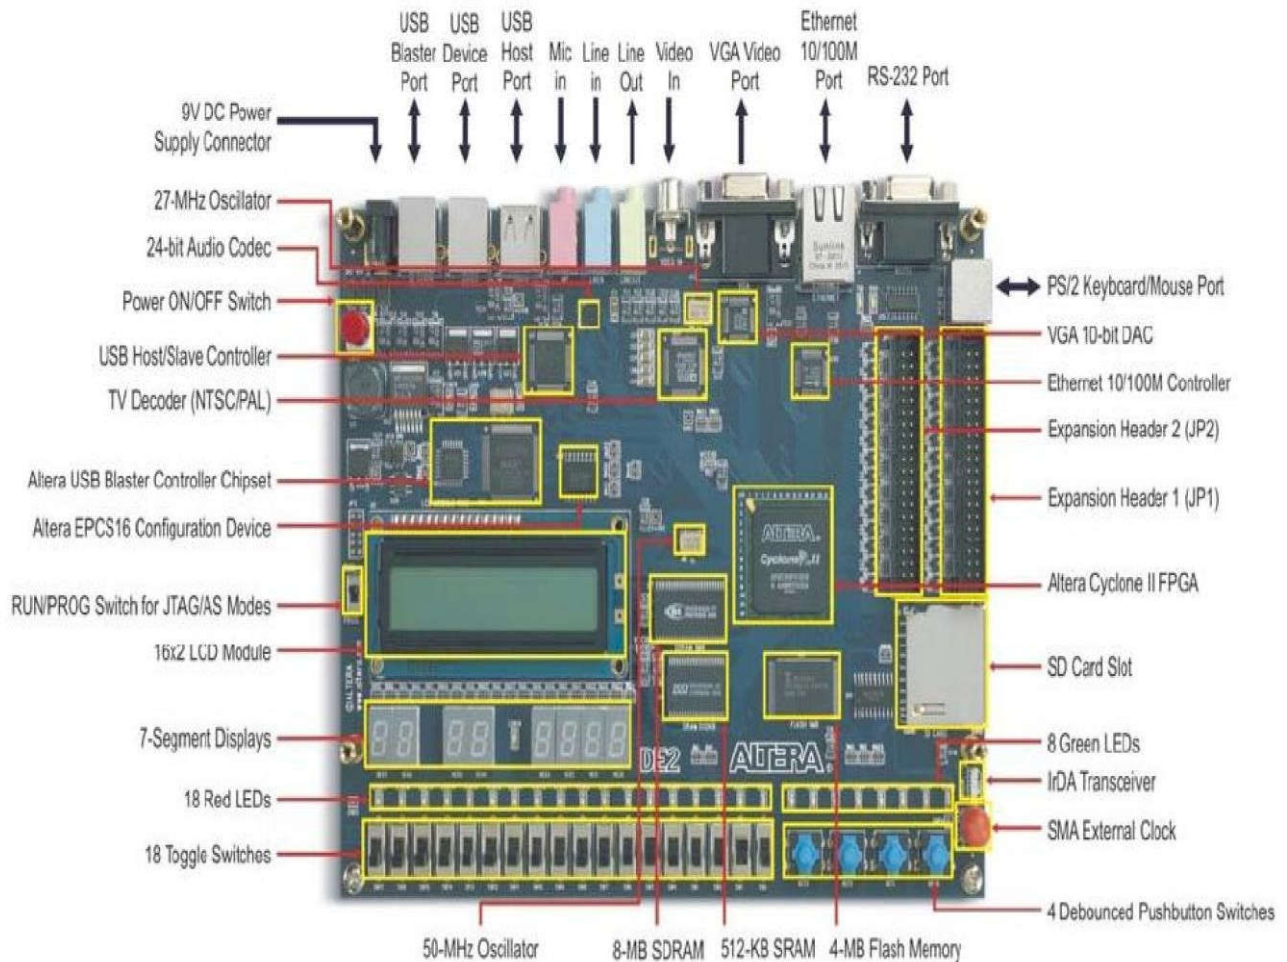

Figure 3: Altera FPGA DE2 Board.
A snapshot of the DE2 board is shown in Figure 3. It depicts the layout of the board and indicates the location of the connectors and key components. The DE2 board has many features that allow the user to implement a wide range of circuits, from simple ones to various multimedia projects. The following hardware is provided on the DE2 board:
2. Connect the supplied USB cable to the USB Blaster port on the DE2 board (see Figure 3)